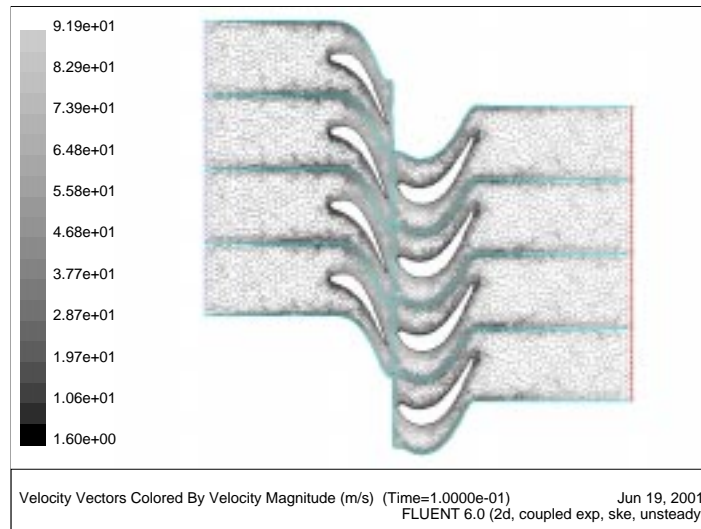

Figure 10.9: Velocity Vectors at $T = 0.1$ Second: Unsteady Flow
1. Display the velocity vectors at $t = 0.1$ second (Figure 10.9).
Note: The velocity vectors in Figure 10.9 are displayed with respect to the absolute reference frame (default). If you want to